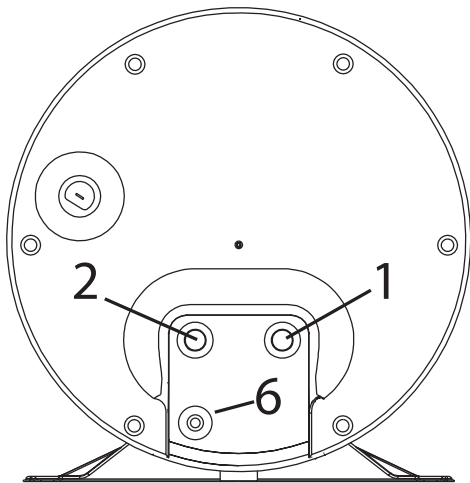

fig. 38
- Connect the cold water supply line and the outlet line at the appropriate connection points (fig. 38).